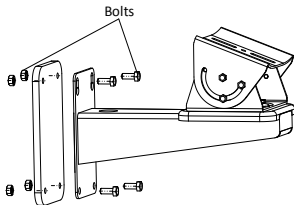

Figure 2-9 Install the Bracket onto the Wall
1. Fix the bullet camera with the mounting bracket with expansion screws or bolts, as shown in Figure 2-9.
1. Select the proper place, and attach the drill template onto the wall/ceiling, as shown in Figure 2-9.